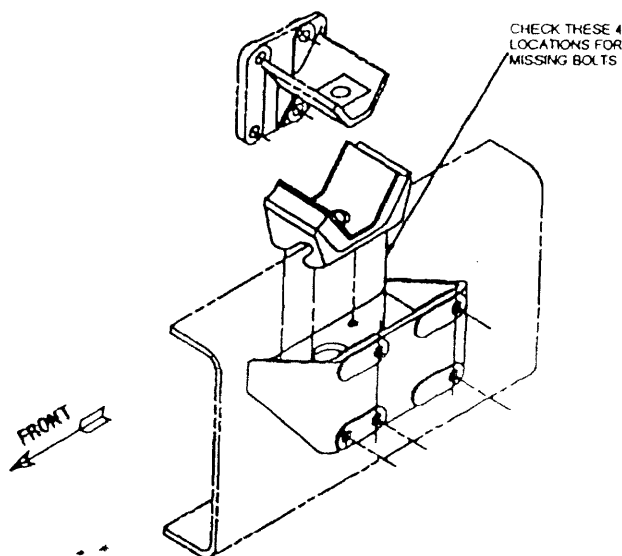

Figure 1 Check for Missing Bolts
The Barry engine mounts on 2000, 4900 6 x 4, and 8100 Models with International I-6, Caterpillar, Cummins and Detroit Diesel engines require four 3/8 inch bolts that thread into the lower "V" insulator block (Figure 1). To achieve maximum insulator life, these bolts should be in place and properly tightened. These bolts should be checked during regular preventive maintenance inspections and any missing bolts replaced.
- 1 From the vehicle underside, inspect the rear left and right engine mounts for missing bolts (Figure 1).